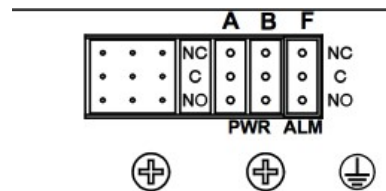

Figure 9-Ground Lug Connection
**ALERT!** Only use components and crimping tools approved by agencies or certifying bodies recognized in your country or region such as Underwriter’s Laboratories (UL), TUV, etc.
8. Connect the lug to the rear panel using the #10 screw(s) provided, as shown in Figure 9.